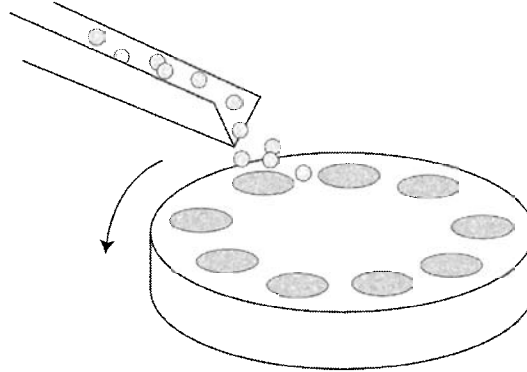

Figure 20: Rotary Splitter Method
- Use a twin divider or rotary splitter (see Figure 20).